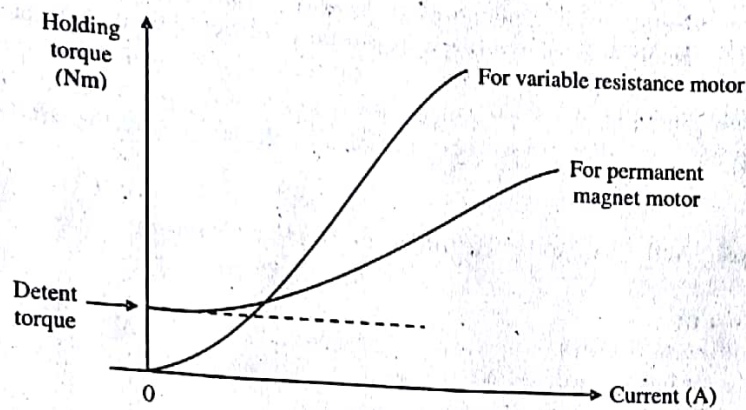

Figure 2.18: Torque Current Characteristics
- 2) **Torque Current Characteristics:** The holding torque of the stepper motor increases with the exciting current. The relationship between the holding torque and the current is called as torque-current characteristics. These characteristics are shown in the figure 2.18.